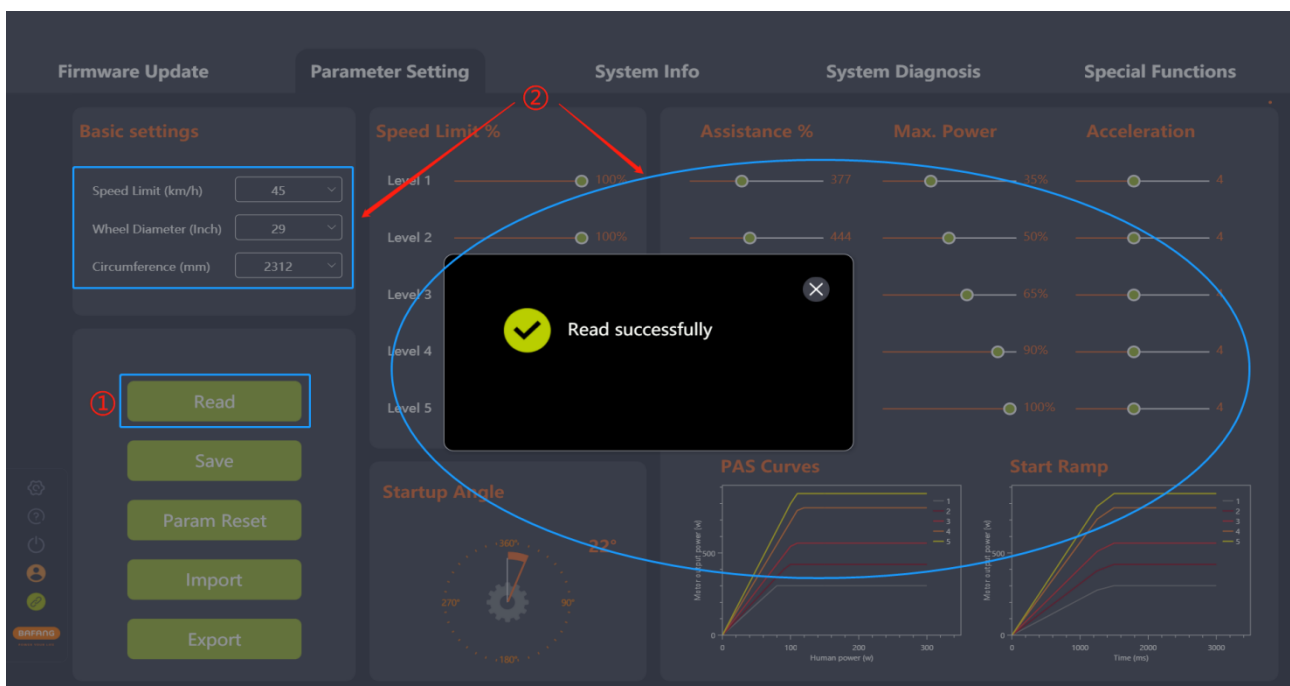

Fig. 5-12 Read
- (1) Confirm that the BESST Tool is connected to the controller and click the “Read” icon;
- (2) Each parameter in the interface is displayed as a number and slider (Fig. 5-12).